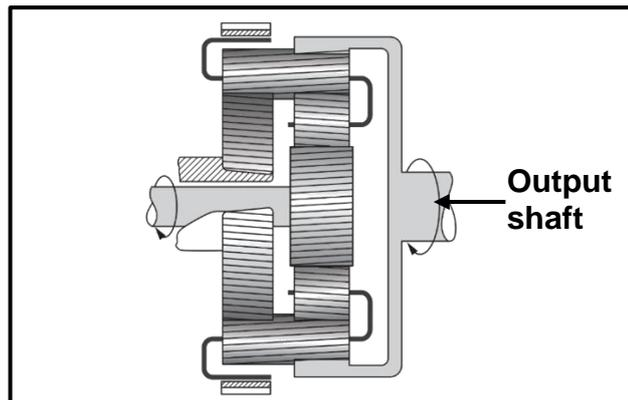

FIGURE 9.2
9.2 Study FIGURE 9.2 below and answer the questions that follow.
- 9.2.1 Identify the part of an automatic gearbox shown in FIGURE 9.2. (1)
- 9.2.2 How many forward and reverse gear selections are obtained using the configuration in FIGURE 9.2? (2)